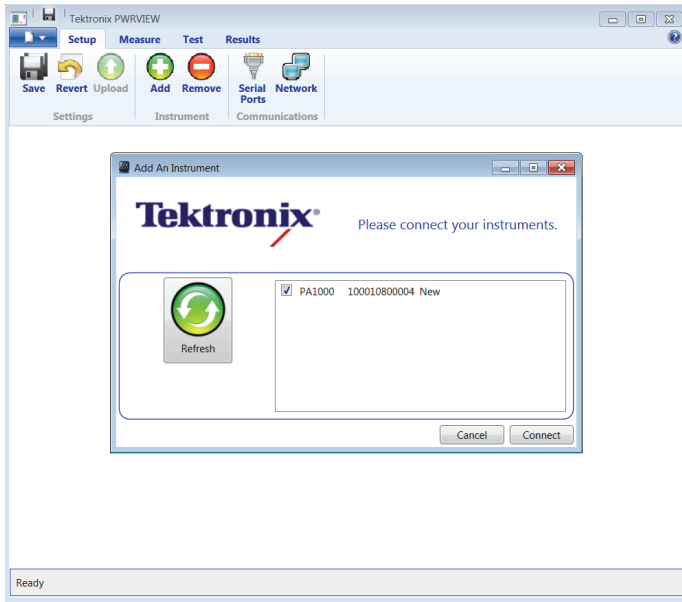

Figure 3. Add an Instrument.
- Install PWRVIEW on the PC connected to the PA1000. Open the PWRVIEW software. Select ADD to add an instrument. A list of available instruments will be shown. select the connected PA1000 then click connect. See Figure 3.